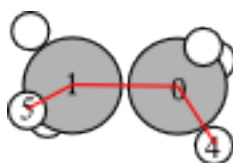

Figure 9: Schematic of the calculated ethane dihedral angle.
**Dihedral angles** There is support in ase for computing dihedral angles. Let us illustrate that for ethane. We will compute the dihedral angle between atoms 5, 1, 0, and 4. That is a H-C-C-H dihedral angle, and one can visually see (although not here) that these atoms have dihedral angle of 60°. See Figure 9.